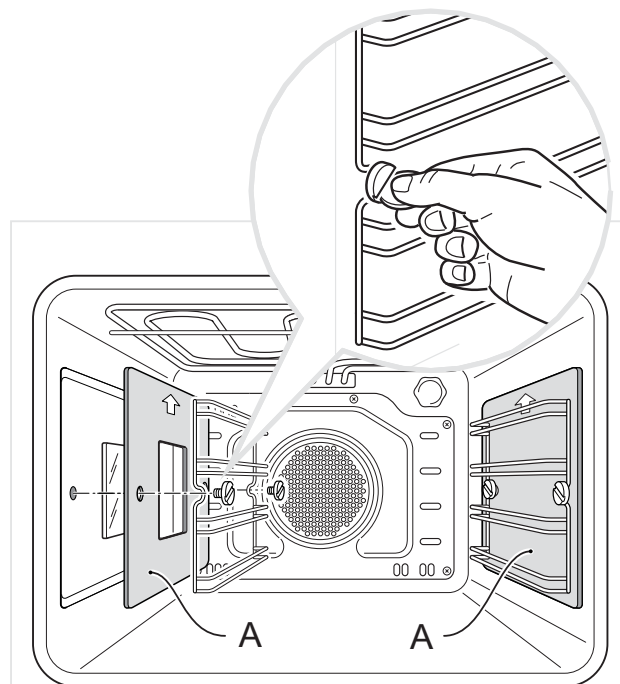

Figure 11
- Assemble the wire racks on the oven walls using the 2 screws interposing the catalytic panels **A** with the arrow up (fig. 11); the catalytic panel with the hole for the side oven lamp must be positioned on the left oven wall. DO NOT INTERPOSE THE CATALYTIC PANEL WITHOUT THE HOLE ON THE LEFT OVEN WALL.
- Unscrew the fixing screws and slide off the wire racks and the catalytic liners to the oven wall as in figs. 11.
- Screw the side racks onto the oven walls interposing the catalytic panels (Fig. 11).